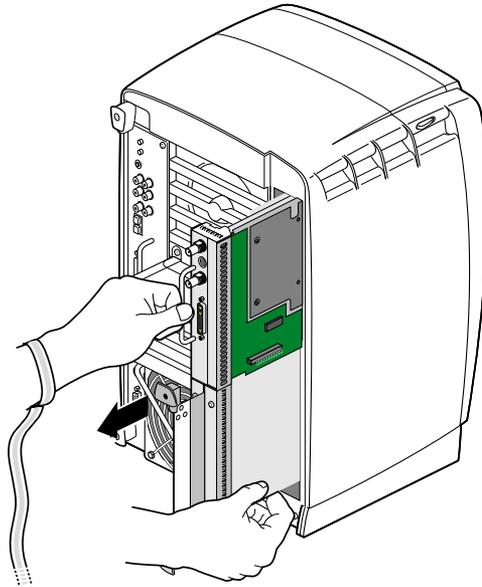

Figure 1-8 Removing the XIO Tri-Module
3. Grasp the XIO Tri-Module by the immovable handle, and support the base of the module as you remove it from the chassis, as shown in Figure 1-8.